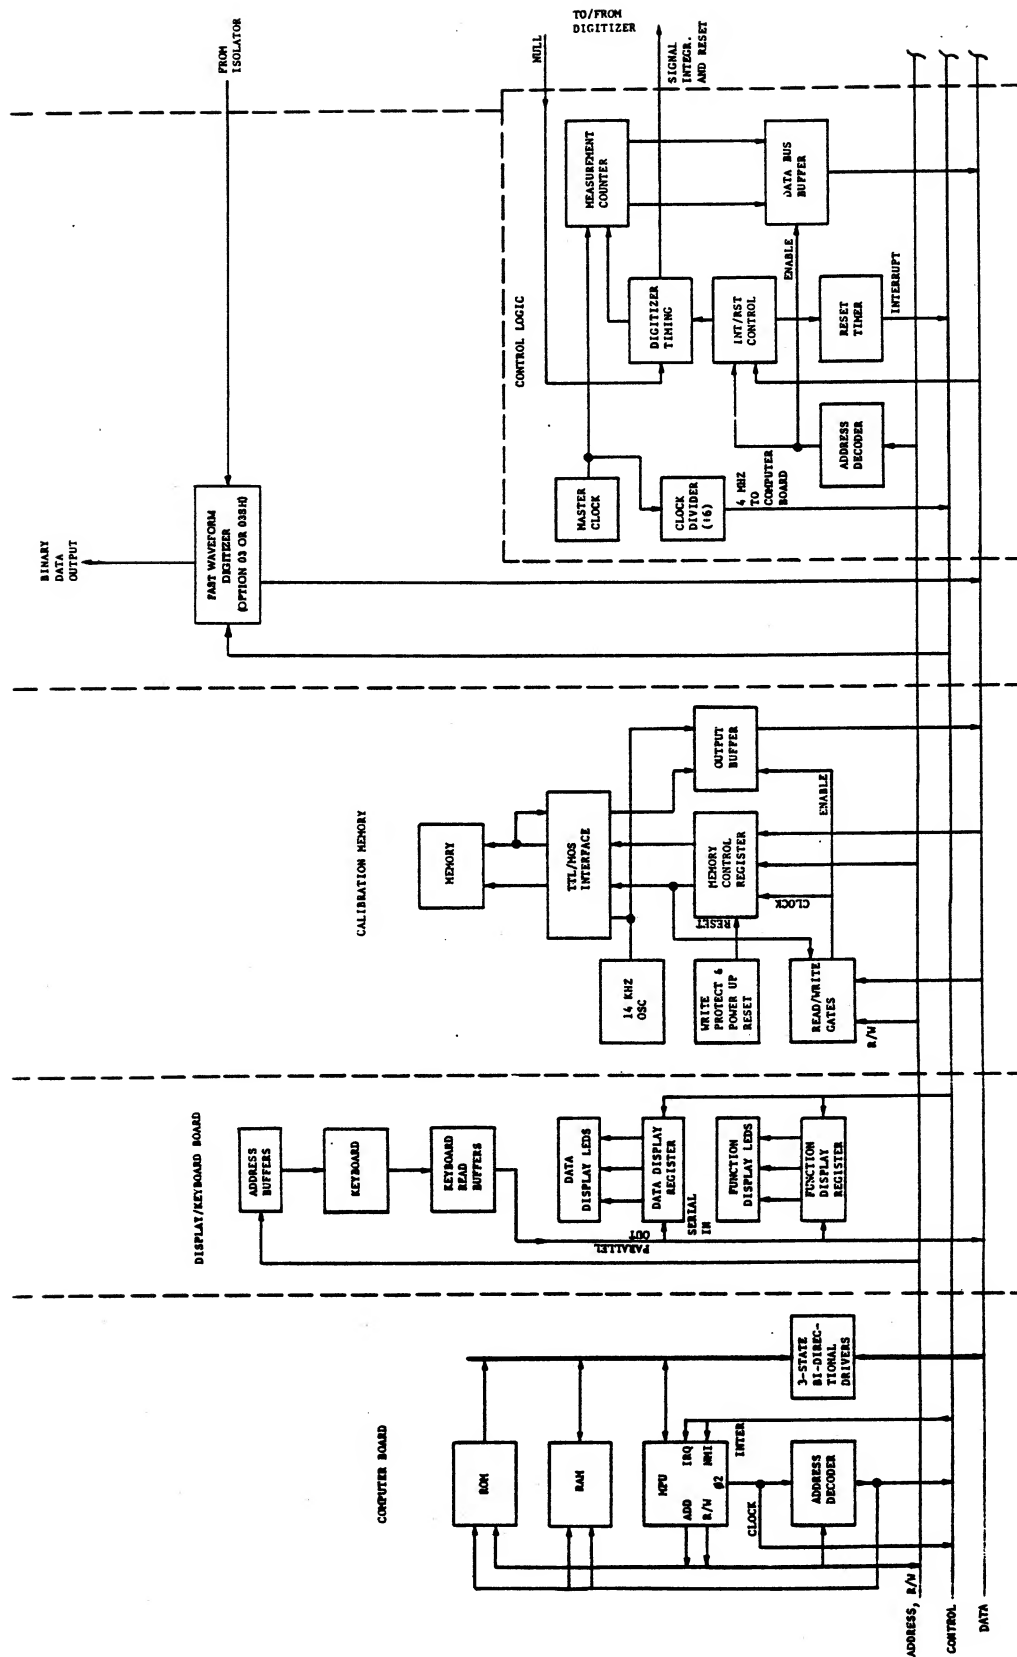

Figure 5.25 - Digital Section Block Diagram
5.4.1 The following paragraphs present a detailed analysis of the Digital Control section. A block diagram may be found in Figure 5.25.